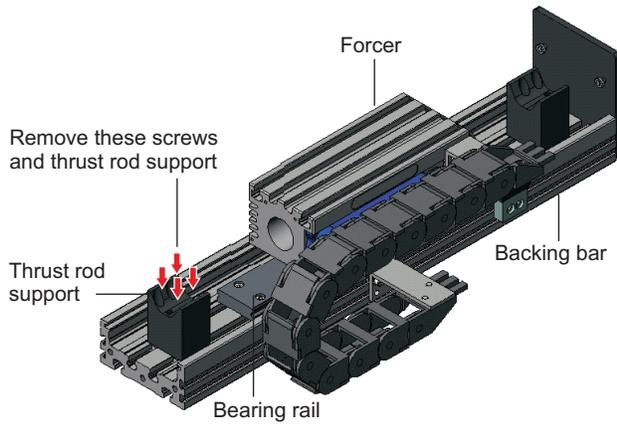
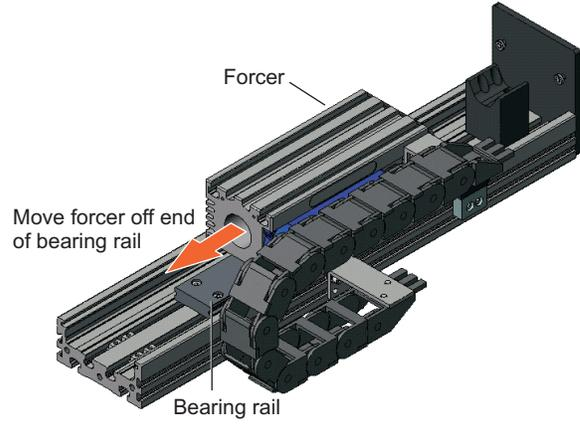

Figure 3.18
Figure 3.19
- On the SB25 or XB38, Figure 3.18, remove the four M4 fixings securing one thrust rod support to the backing bar and slide the thrust rod support out of the backing bar, Figure 3.19.